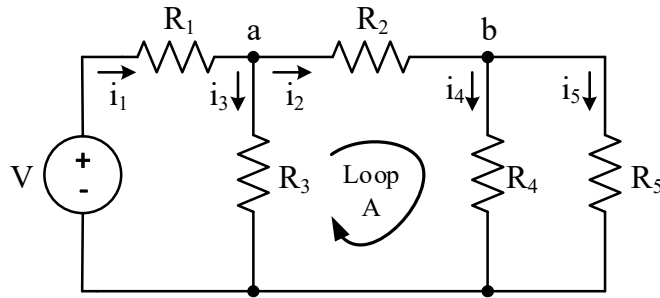

Figure 3. Resistor Network with Nodes a and b , note Loop A .
Using a breadboard, assemble the network shown in Figure 3. Using the DMM as a voltmeter, adjust the supply voltage, V , from the DC power supply, to obtain ten volts.
Measure and record the voltage across each resistor shown in Figure 3. Be sure to record the polarities of the voltages.
Using the DMM as an ammeter, measure and record the currents i_1 through i_5 shown in Figure 3. You will have to insert the ammeter in series with the resistors one-by-one, and then replace the resistor to its original position prior to doing the next measurement. Keep track of the direction of the currents you measure.
1. Verify KVL for the center loop (Loop A) as shown in Figure 3.
2. Verify KCL for node a as shown in Figure 3.